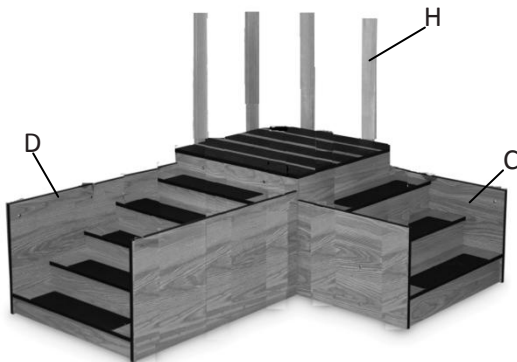

Figure 5: Base with 57 1/2" Uprights
5. Attach uprights ‘H’ on the open ends of the base ‘A’ using Hex head bolts ‘P’ and Allen key, with the dots facing inwards as shown in figure 5. (It may require to remove (2) bolts from the upper mounting positions on the center platform to attach the uprights or position the step sections). **HAND TIGHTEN ONLY!**